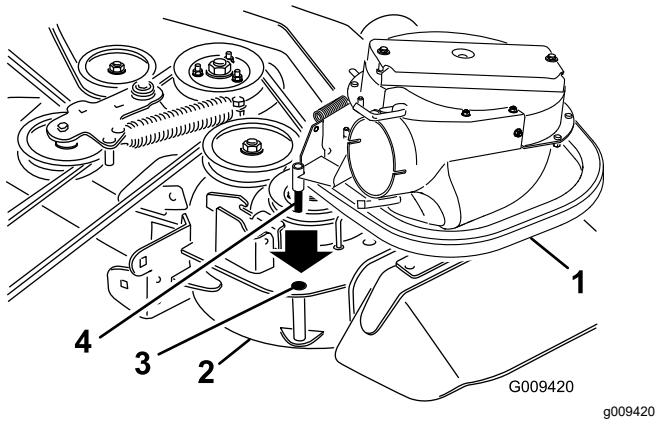
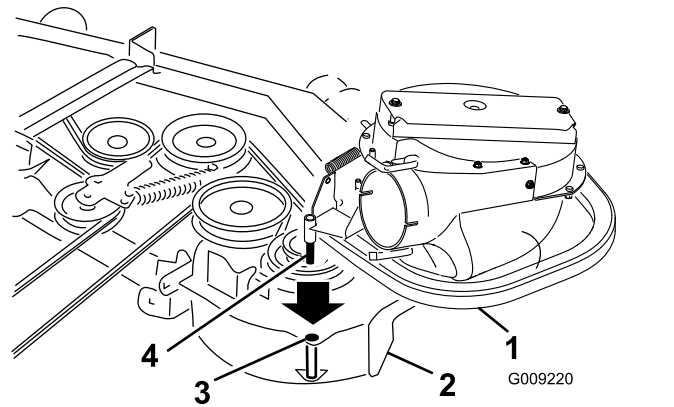

Figure 16
Figure 17
- Slide the blower-assembly peg into the pivot hole (Figure 16 or Figure 17).